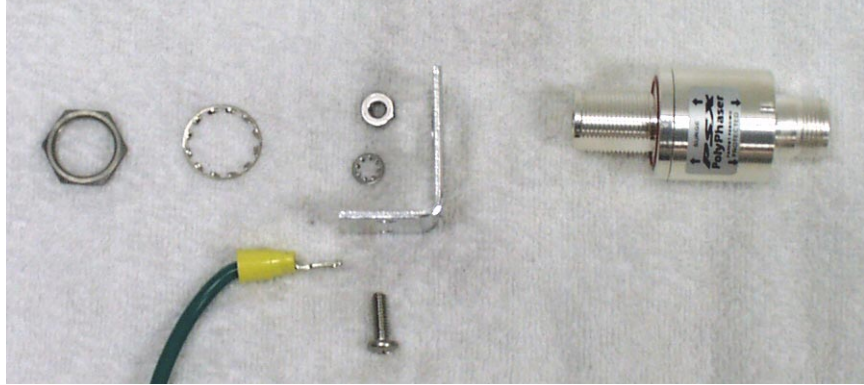

Figure 21. Surge Protection Device (Exploded View)
- 4 Assemble the surge protection device as shown in Figures 21 and 22. (Use a PolyPhaser IS-MT50LN, PSX, or suitable equivalent. See page 36 for specifications.)